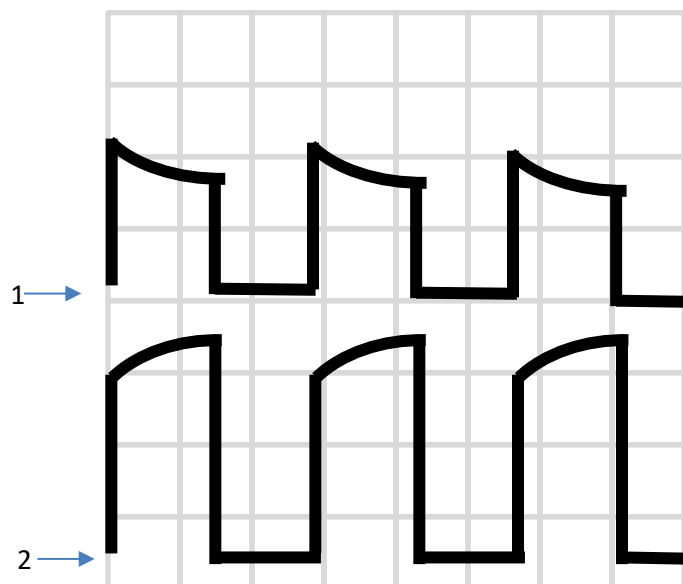

Figure 10
21) Hit the AutoRange button to make sure that you have two plots on your Oscopce screen. Adjust the time control until M 1.00 s is in the center of the screen (you can have this setting higher than 1.00 s if needed). Use the “Position” and “Volts/Div” knobs to adjust Channel 1 and Channel 2 until you have a plot roughly like Figure 10 below.